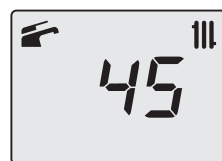

Figure 9.23
- Scroll through the various parameters by pressing the keys 13 (back) or 15 (forward) until **LP**, which alternates with the minimum heating water temperature (e.g. **45**), appears on the LCD display indicating the activation of the “chimney sweep function” at minimum power (Figure 9.23).